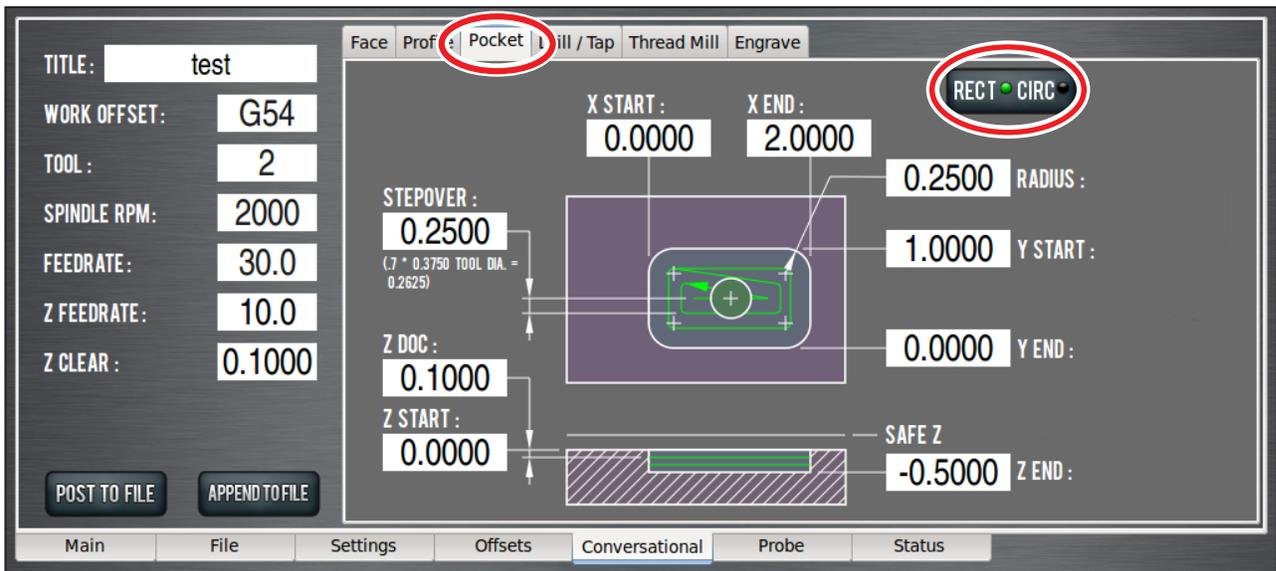

Figure 6.23
*Pocket* cuts a rectangular or circular pocket (cavity). The rectangular pocket can have a corner radius specified, or otherwise the tool paths have sharp corners (see **Figure 6.23**).